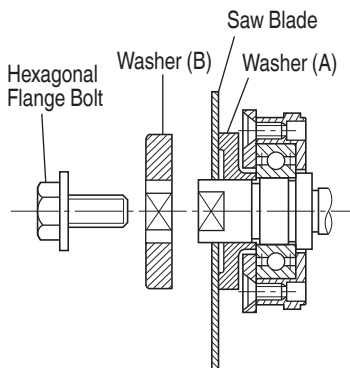

Fig. 12
2. Mounting the Saw Blade (Fig. 12)
- (1) Thoroughly remove any sawdust which has accumulated on the spindle, bolt and washers.
- (2) For mounting saw blade, the concave sides of both washers (A) and (B) must be fitted to the saw blade sides. Mount the saw blade on the spindle, and finally affix washer (B) (See Fig. 12)
- (3) To assure proper rotation direction of the saw blade, the arrow direction on the saw blade must coincide with the arrow direction on the blade cover.
- (4) Using the fingers, tighten the hexagonal bolt retaining the saw blade as much as possible. Then depress the lock lever, lock the spindle, and thoroughly tighten the bolt.
- (5) Confirm that the lock lever is in the original position.